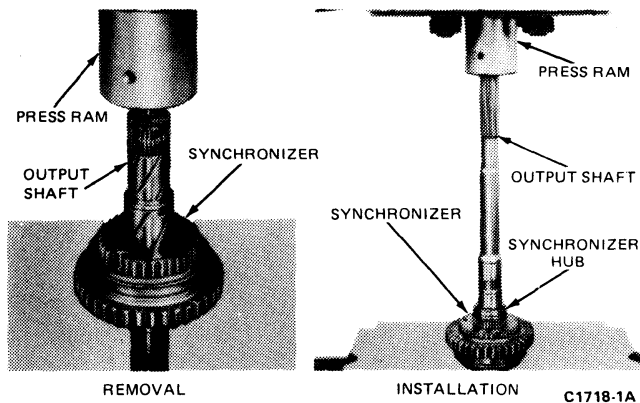

FIG. 20. Removing and Installing First and Reverse Synchronizer
23. Remove the next snap ring from the output shaft. The first-and-reverse synchronizer hub is a press fit on the output shaft. To avoid damaging the synchronizer assembly, remove the synchronizer hub using an arbor press as shown in Fig. 20. **Do not attempt to remove or install the hub by hammering or prying.**
5. The first-and-reverse synchronizer hub is a press fit on the output shaft. To eliminate the possibility of damaging the synchronizer assembly, install the synchronizer hub with the teeth-end of the gear facing toward the rear of the shaft, using an Arbor Press as shown in Fig. 20. **Do not attempt to remove or install the hub by hammering or prying.**